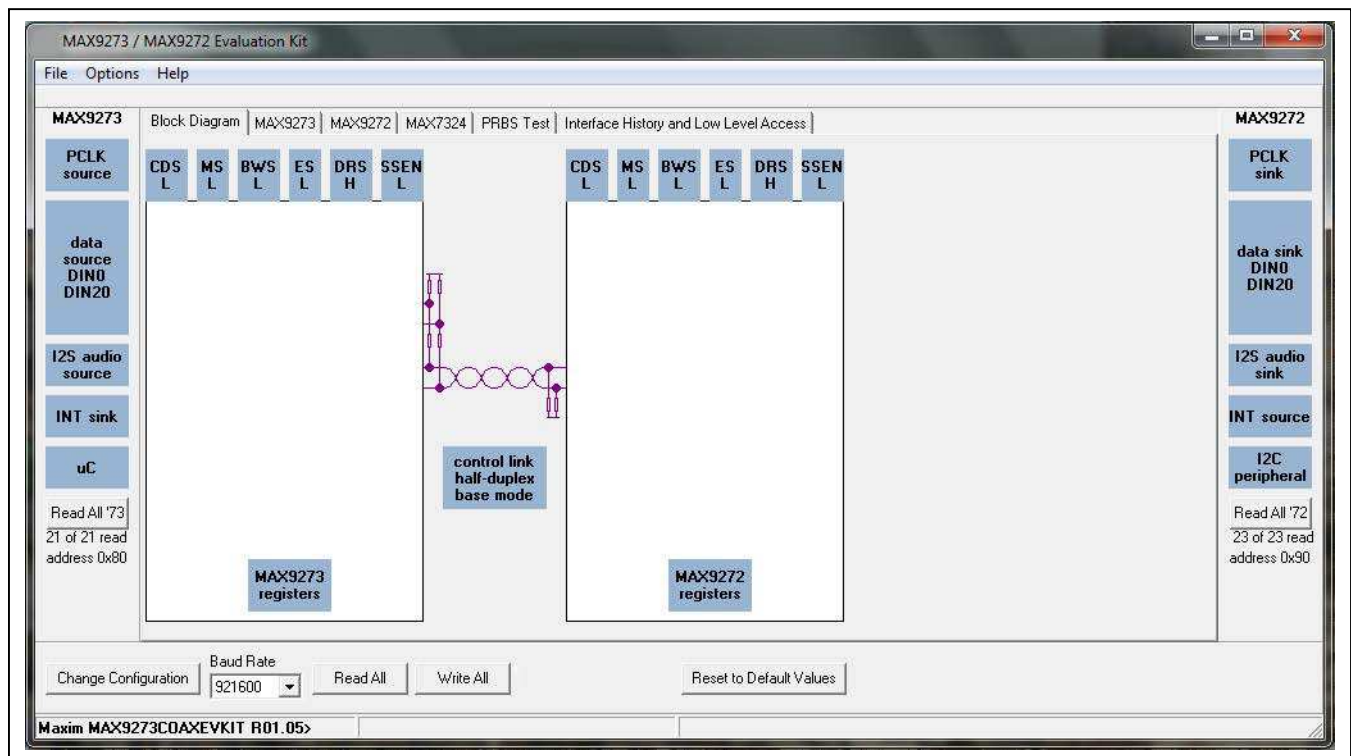

Figure 1. MAX9273/MAX9272 EV Kit Software Main Window (Block Diagram Tab)
- 14) The EV kit software main window appears, as shown in Figure 1.
The main window of the evaluation software (Figure 1) shows a block diagram representing the MAX9273/MAX9272 system. The left column shows MAX9273 input data sources and the right column shows MAX9272 output data sinks.